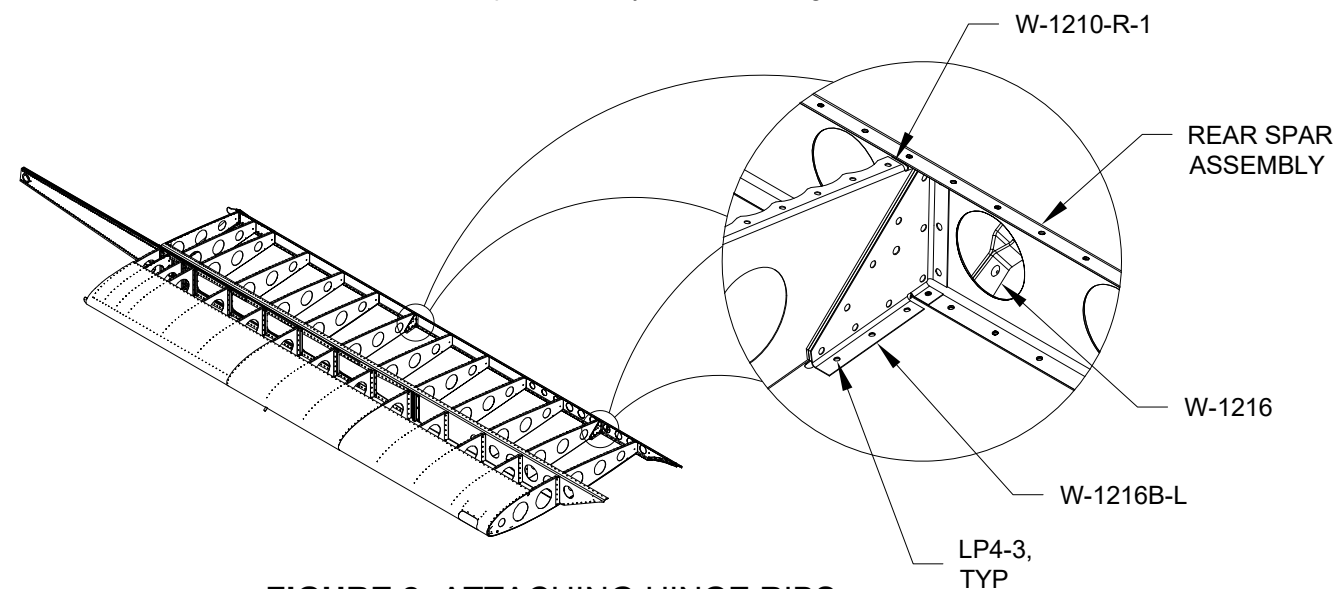

FIGURE 2: ATTACHING HINGE RIBS
Step 4: Cleco the bottom flange of the two W-1216B-L Hinge Ribs to the W-1202-L & W-1203-L-1 Mid & Outbd Wing Skins. Rivet the bottom flange of the hinge ribs to the mid & outbd wing skins. See Figure 2. Insert two W-1216 Hinge Bracket Assemblies through the openings in the W-1202-L & W-1203-L-1 Mid & Outbd Wing Skins. Flex the hinge ribs out of the way as required to allow insertion of the Hinge Bracket Assemblies. Insert clecos through the hinge ribs and Hinge Bracket Assemblies into the W-1210-R-1 Main Ribs. Cleco the hinge ribs to the Rear Spar Assembly. Rivet the hinge ribs to the Hinge Bracket Assemblies, main ribs, and Rear Spar Assembly as shown in Figure 2.